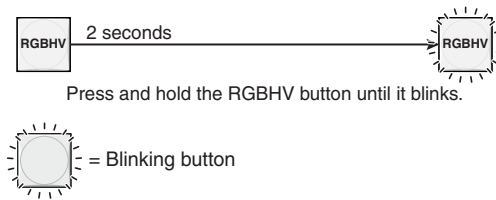

Figure 3-36 — Select RGB Delay mode
- Press and **hold** the RGBHV button for approximately 2 seconds (figure 3-36).